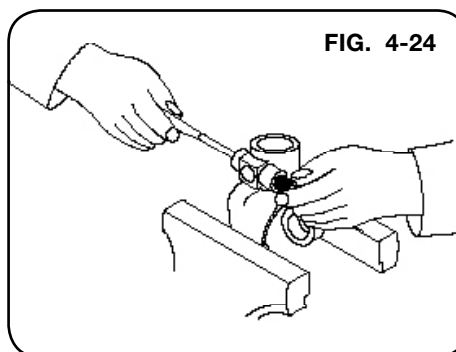

FIG. 4-24
9. Clear the edges of the retaining washer bore to accept the new one by removing the deformed metal from the last peening operation to hold the washer in place. (FIG. 4-24)